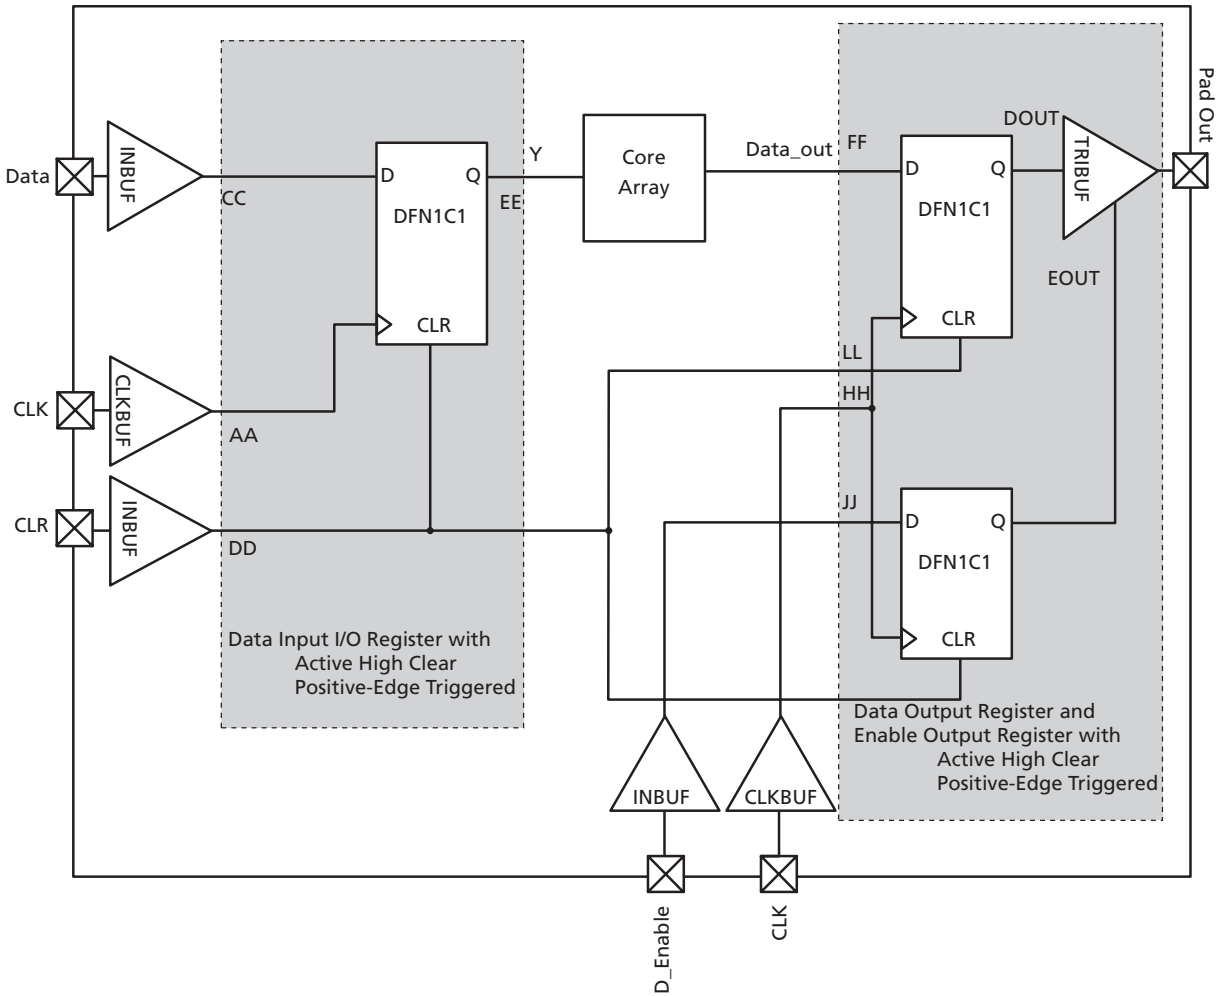

Figure 2-13 • Timing Model of the Registered I/O Buffers with Asynchronous Clear
* See Figure 2-13 on page 2-39 for more information.